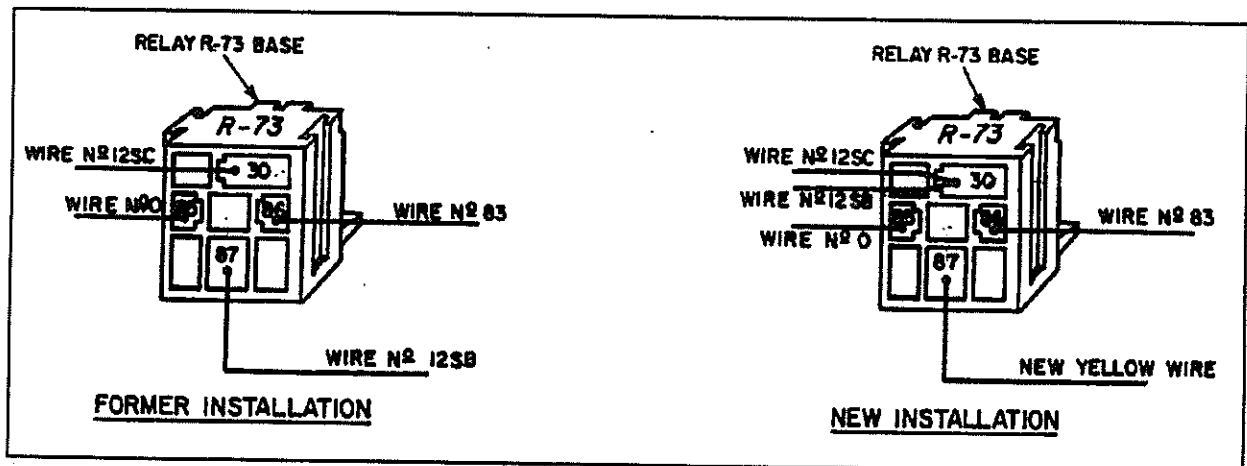

Fig. 6
13. Join wires #12SB and #12SC together, crimp a female connector #56-1181 (supplied with kit), then insert it in position #30 of relay R-73 base. Refer to figure 6.